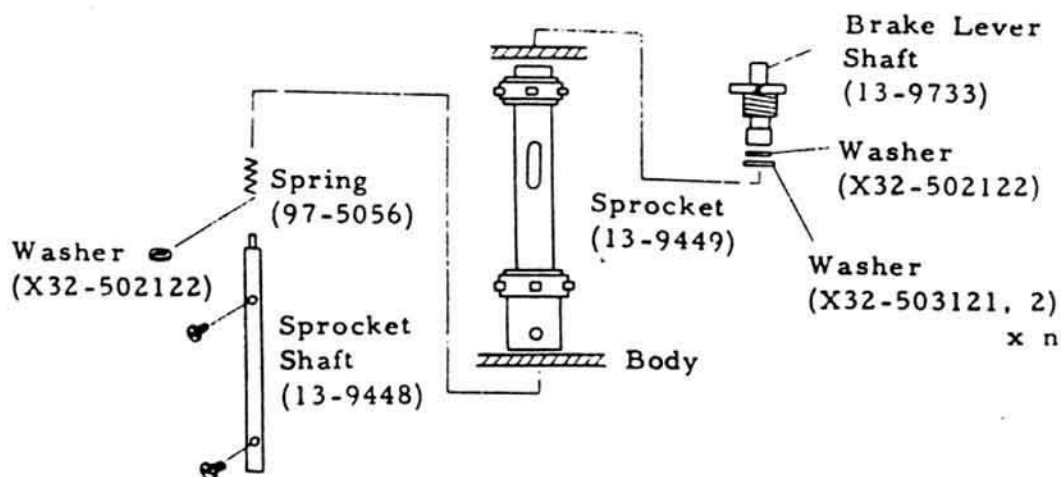

Fig. 2
- 1) Install each part as shown in Fig. 2.
- 2) Put in Washer (X32-502122) from the slot of Sprocket, as shown in Fig. 2
- 3) Install each part in the sequence shown in Fig. 2.